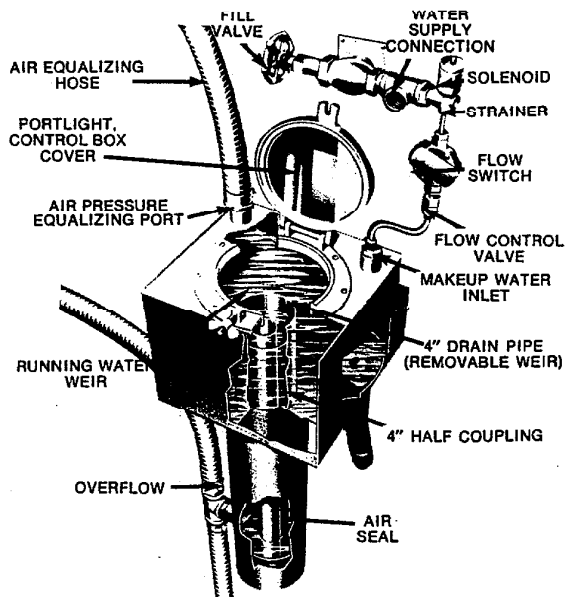

Fig. 9. Cutaway view of Standard Water Level Control Box.
- b. Pour one gallon of water down control box drain pipe to make an air seal at the bottom of the pipe (Figure 9).
- a. Observe water in control box frequently. Be certain that water level is at the running level weir (Figure 9). Observe frequently through glass portlight in control box top. **DO NOT** open portlight when unit is running because air leakage will alter water level.